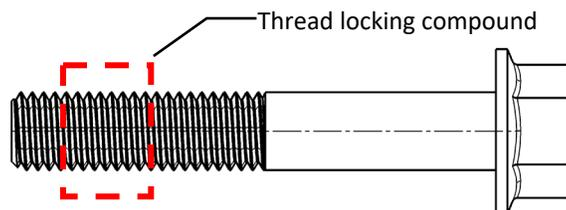

Figure 3: Supplied Flange Bolt
N. Apply a high strength, permanent thread locking compound to the bolt thread as shown in Figure 3.